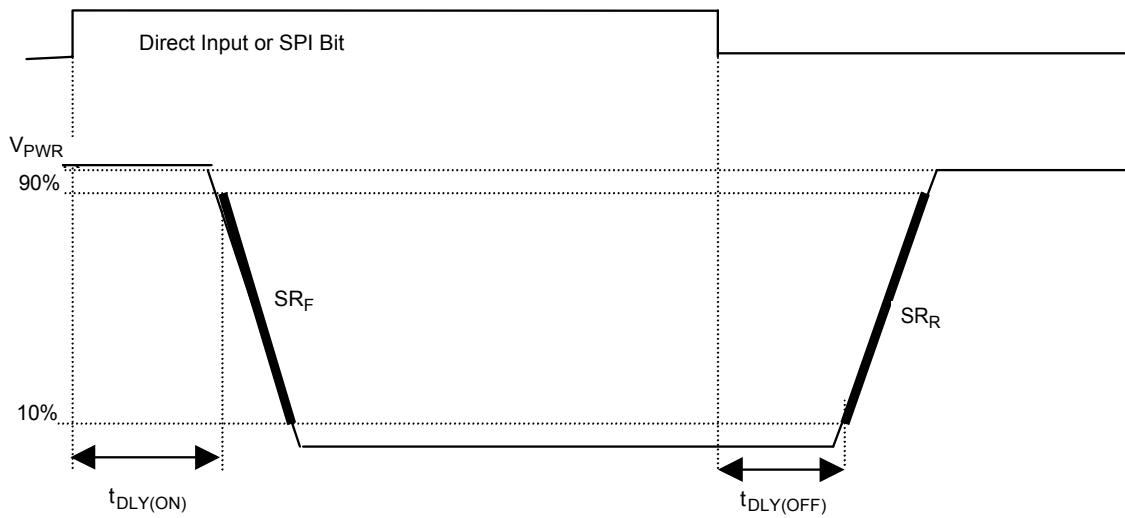

Figure 3. Output Slew Rates and Time Delays, Low Side
31. Low-side output rise and fall slew rates measured across a 5.0 Ω resistive load at low-side output = 10% to 90% (see Figure 3, page 18).
32. Low-side output turn-ON delay time measured from 50% of the rising ILS to 90% of V_{OUT} with $R_L = 27\ \Omega$ resistive load (see Figure 3, page 18).
33. Low-side output turn-OFF delay time measured from 50% of the falling ILS to 10% of V_{OUT} with $R_L = 27\ \Omega$ resistive load (see Figure 3, page 18). These parameters are guaranteed by process monitoring.